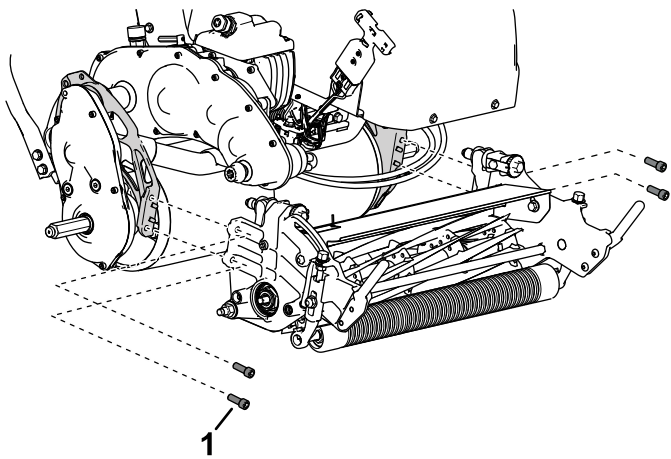

**Figure 36**
2. Remove the hardware that secures the reel-drive assembly to the side plate (Figure 36).
3. Remove the reel-drive assembly, flat washers, spring washers, and spacers from the side plate (Figure 36).